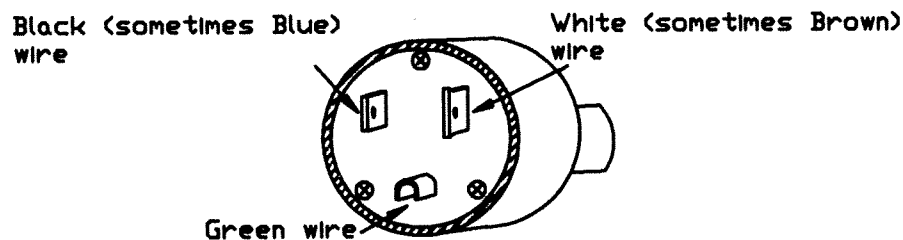

Figure 26-A Power Plug Wiring
5. Refer to Figure 26-A and connect the wires to the new plug's screw terminals in the positions shown. Wrap each bare wire around the correct screw's threads in a clockwise direction and tighten them firmly.